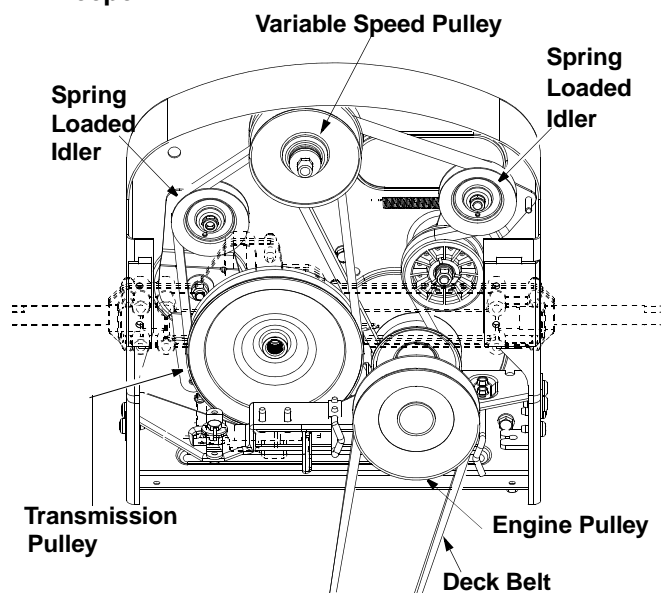

Figure 16
- Using a 9/16" socket, remove bolt, spacer and the flat washer from the variable speed pulley. See Figure 16 .
- Push the idler bracket to the right and remove the belt. See Figure 16 .